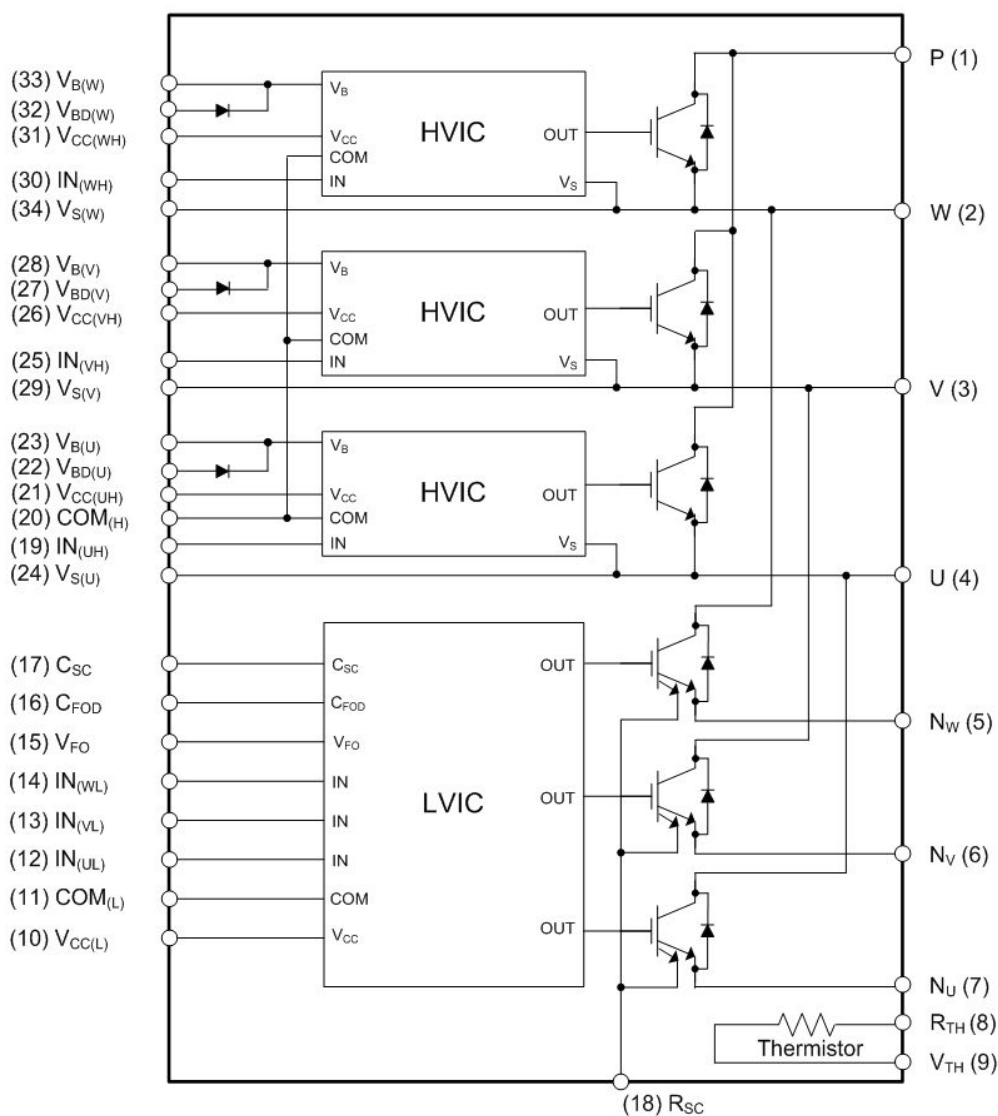

Figure 3. Internal Block Diagram
- 1200 V - 35 A IGBT inverter for three-phase DC / AC power conversion (refer to Figure 3)